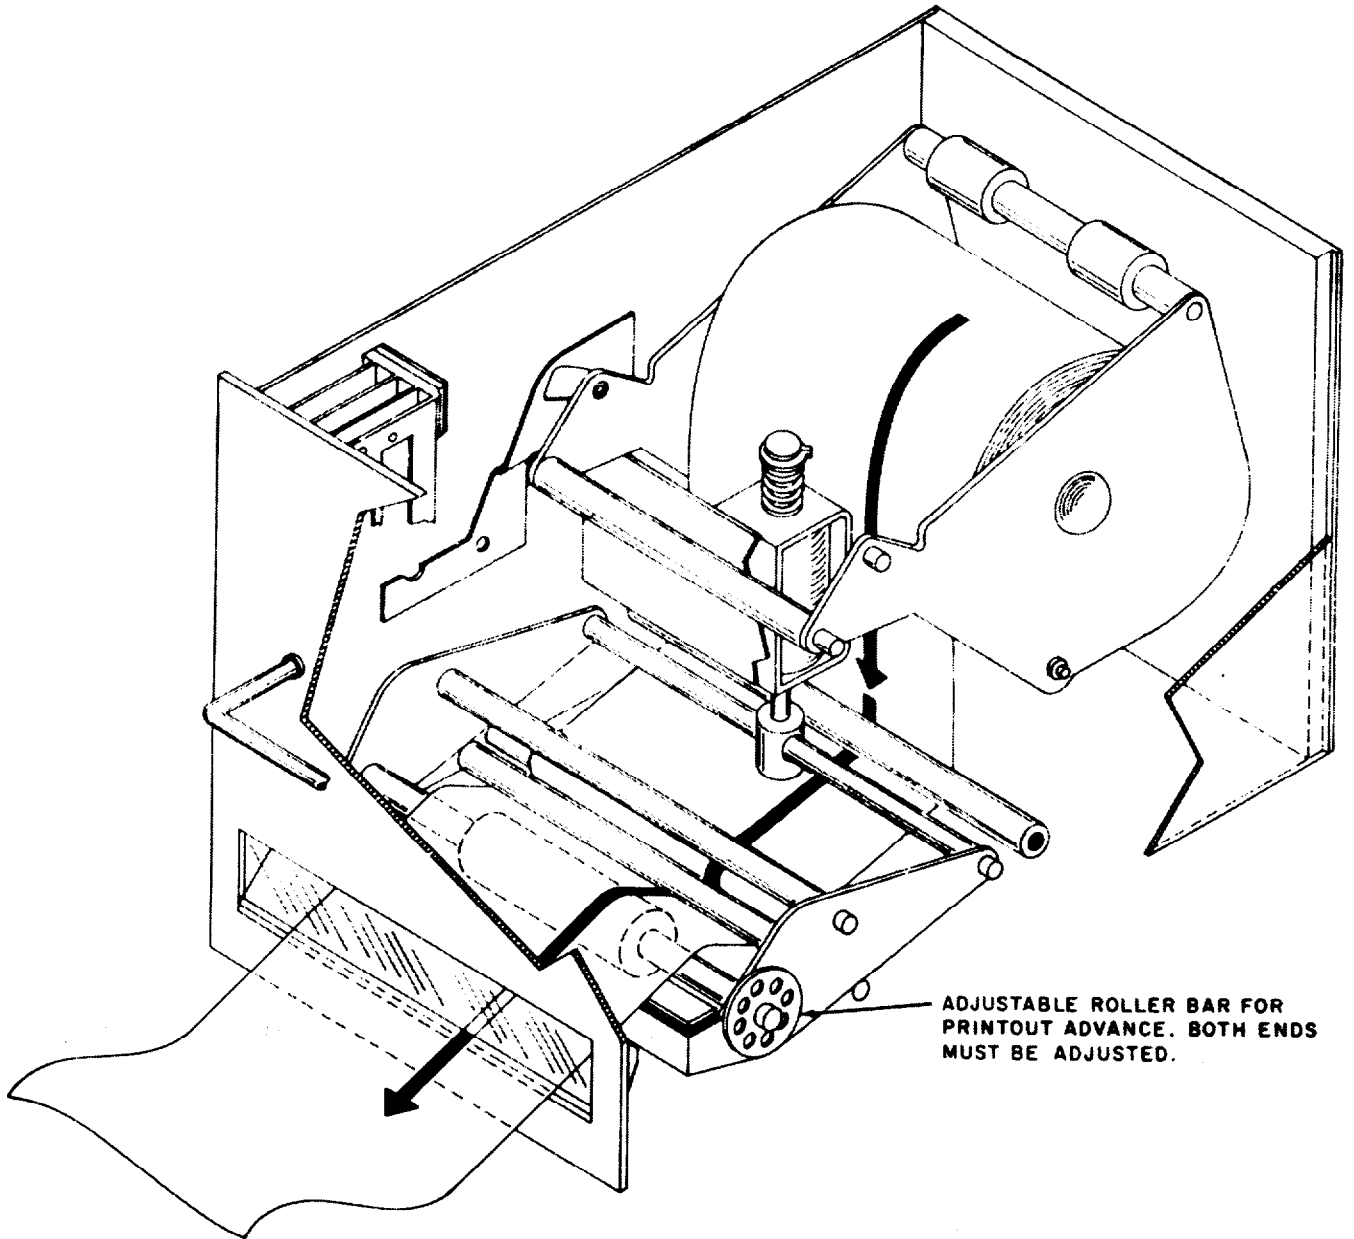

Fig. 2—Paper Path—KS-20537, L1 Moduprinter
- (1) With paper bale assembly up, extract the paper shaft removing old core.
- (2) Reload with new roll. See Fig. 2.
- (3) Check that paper roll rotates freely on shaft.
- (4) Thread paper following path shown in Fig. 2.
2.08 Visually check that the paper advances with adequate separation between lines. (Adequate separation is defined as the amount of space needed for legibility of the printout.) If separation is inadequate, adjust the two eccentric bearings (screw adjustment bushings) that support the paper advance roller (see Fig. 2). Adjustment must be made with constant pressure on the paper bale assembly. Paper skew is checked and adjusted in the same manner.